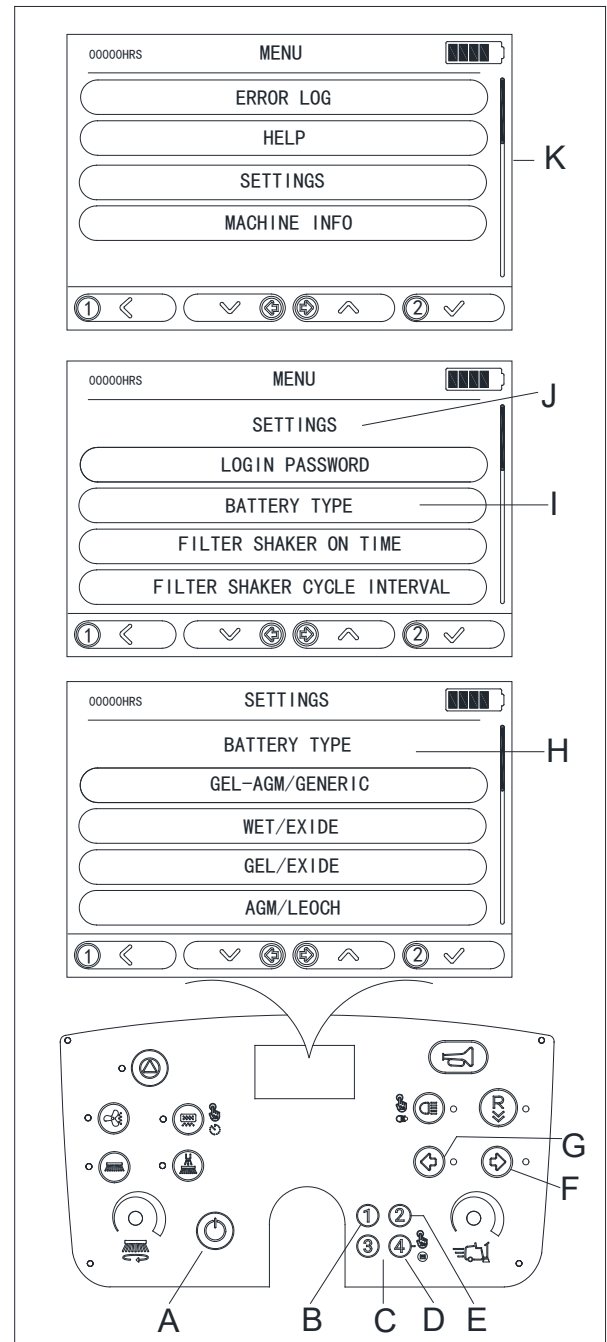

Figure6
1. Press the power button (A, Figure 6).
2. Use the 4-digit pin pad (C, Figure 6) to enter the password. The default password is 1234.
3. After successfully logging in, press and hold ④ button (D, Figure 6) for 2 seconds to enter the MENU interface (K, Figure 6).
4. In the MENU interface, press ① button (B, Figure 6) to go back to the previous menu, press indicator left button (G, Figure 6) to scroll down, press indicator right button (F, Figure 6) to scroll up, select "SETTINGS", then press ② button (E, Figure 6) to confirm the selection and enter the SETTINGS interface (J, Figure 6).
5. In the SETTINGS interface (J, Figure 6), select (I, Figure 6) BATTERY TYPE to enter the BATTERY TYPE settings interface (H, Figure 6).
6. Press indicator left button (G, Figure 6) to scroll down, press indicator right (F, Figure 6) to scroll up, choose the battery type according to the batteries are installed, then press ② button (E, Figure 6) to update the change.